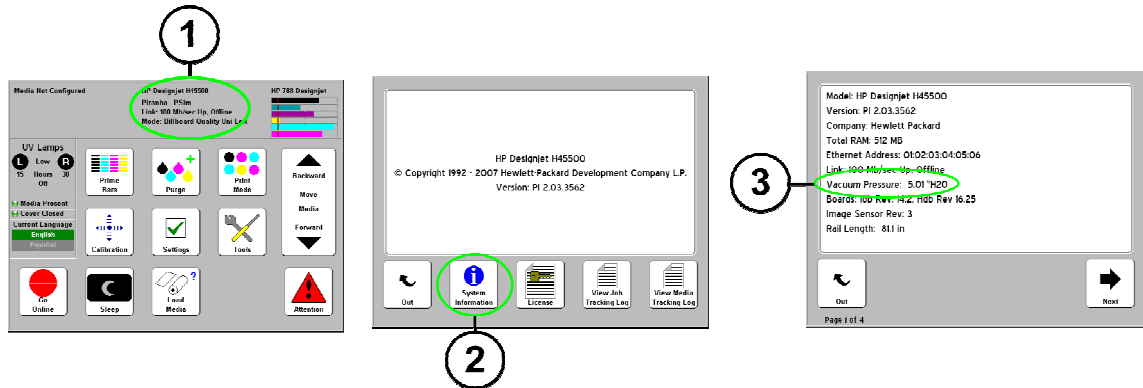

Figure 16 Keystrokes to show H-series vacuum status
See Figure 16.
1. Use the keystrokes shown in Figure 16 to display the vacuum status.